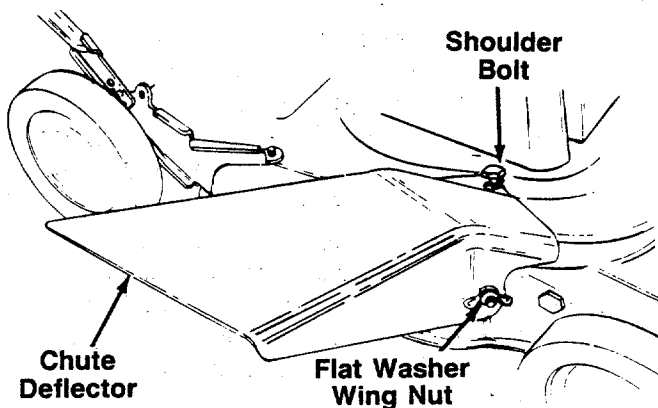

FIGURE 7.
2. Secure the front of the deflector to the bolt protruding from the deck with one flat washer and wing nut. See figure 7.